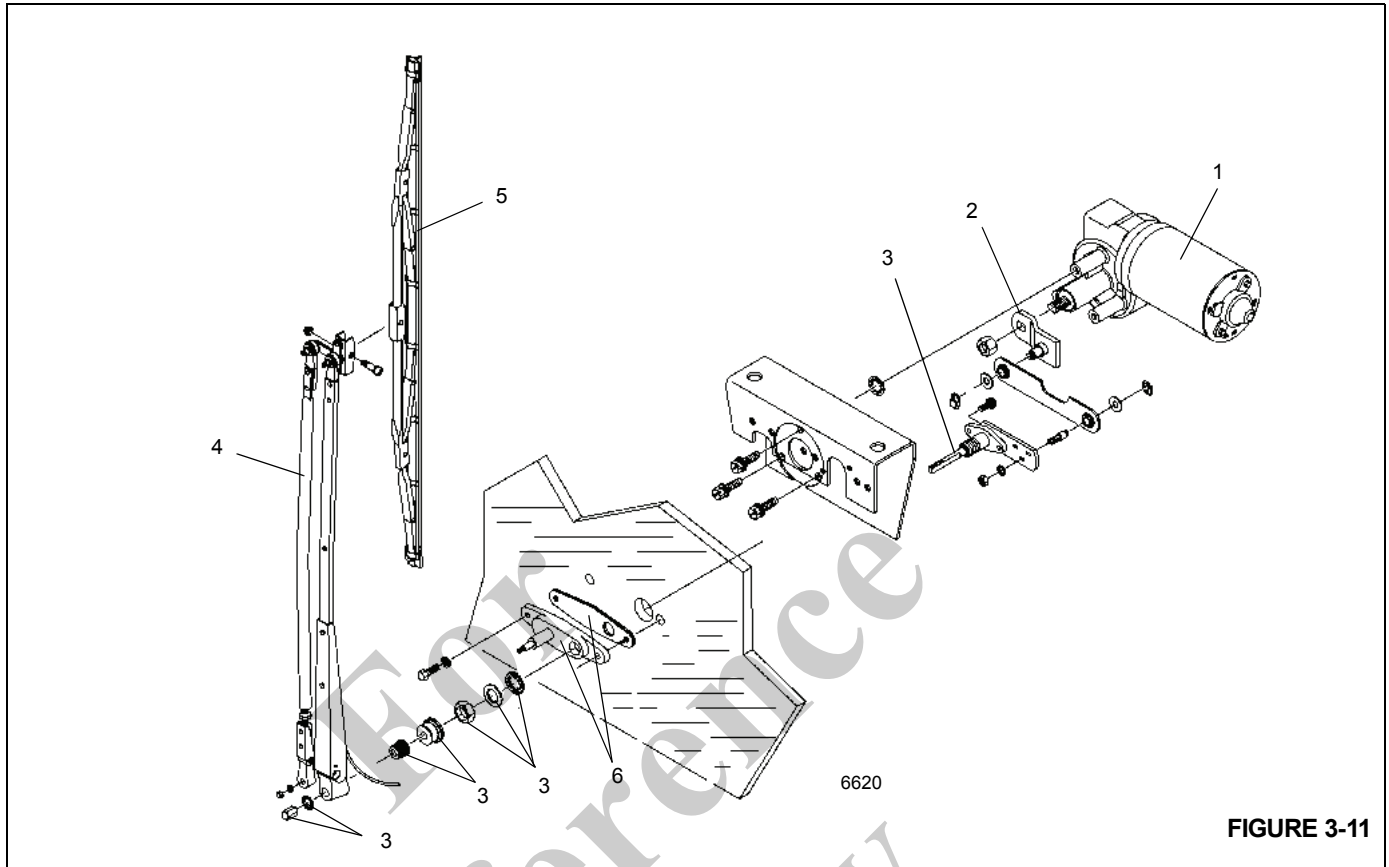

FIGURE 3-11
4. Disconnect the washer hose on the wiper arm (also called the pantograph arm assembly) from the washer nozzle fitting assembly (Figure 3-11).